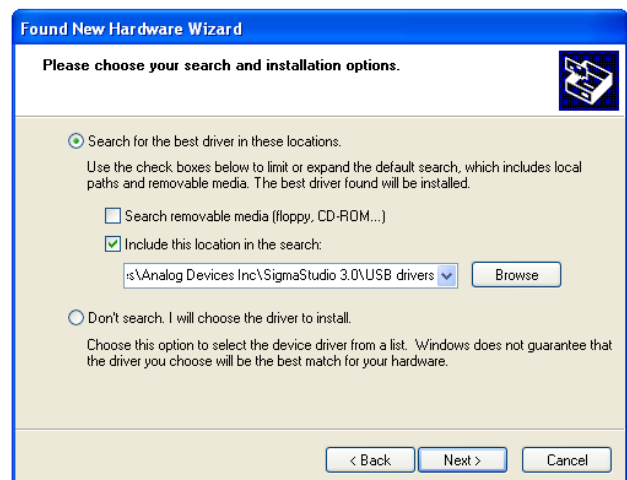

Figure 4. **Found New Hardware Wizard**—Search and Installation Options
2. In the next window, select the **Search for the best driver in these locations** radio button, select the **Include this location in the search:** checkbox, and click **Browse** to find the USB drivers subdirectory within the SigmaStudio directory (see Figure 4).